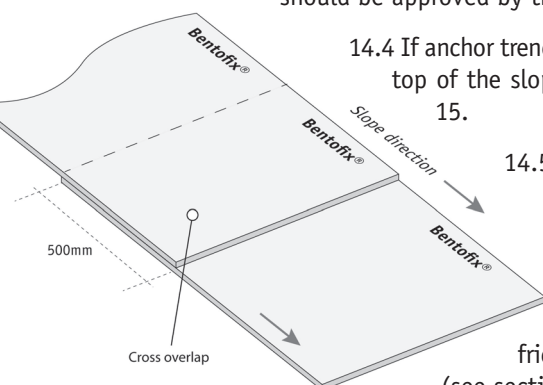

Fig. 8 Overlaps in direction of waterflow (roof tile system)
14.2 On slopes with an inclination larger than 17% (9.65°; 1V:6H) and 3m length it is necessary to install Bentofix® in direction of the slope. In any cases the relative interface friction angles should be confirmed with shear box tests. Cross-overlaps are to be avoided. Should this not be possible, then cross-overlaps have to be in the direction of the water flow (fig. 8; roof tile system).